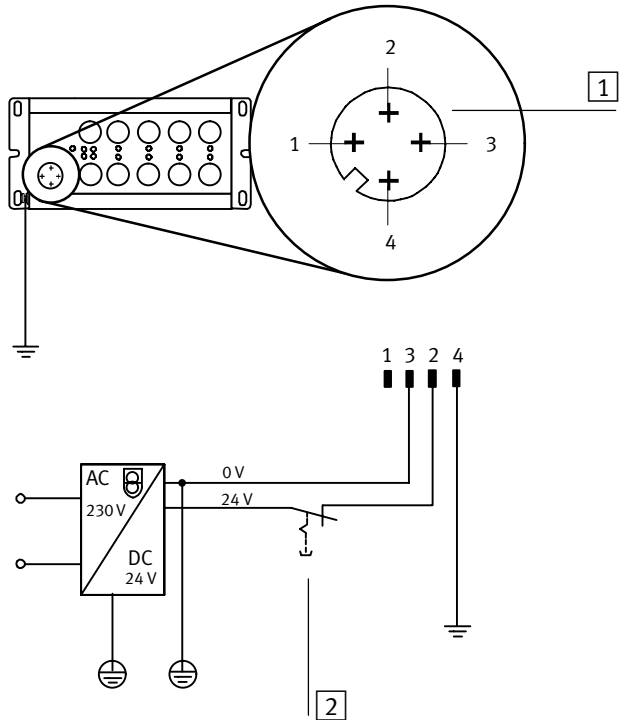

Fig. 3/10: Pin assignment and example of the load voltage connection
- on the housing (earthing connection see Fig. 3/10).